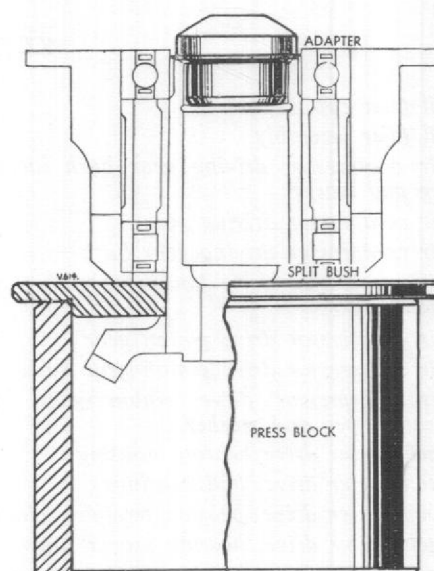

Fig. 10. Press block group T.77683 and adapter T.77684 for pressing port generator drive gear clear of the housing.
5. Assemble split bush of press block group T.77683 around the gear in the gap between the gear and the housing; place the assembly, gear downwards, on the press block and using adapter T.77684, press the gear clear of the housing, Fig. 10.